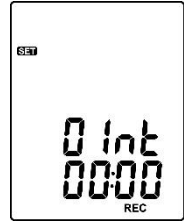

Fig.12
- (1) Press the  or  button to set minute or second. (see Fig.12)
- (2) Press the  /  button to increase / decrease value.